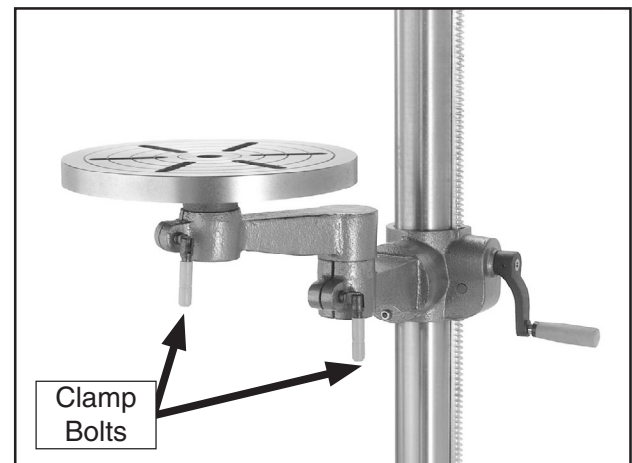

Figure 26. Adjusting distance from column.
1. Loosen the clamp bolt located at the pivoting elbow of the table support (**Figure 26**).